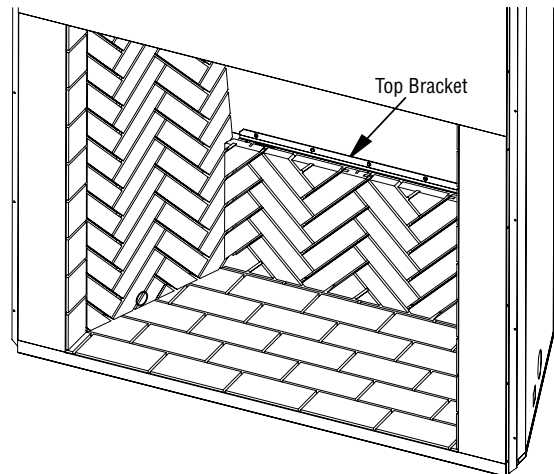

Figure 31 - Installing Rear Bottom Brick Panel
- Install the rear bottom brick panel. Place the panel face side down on the hearth with the bottom of the panel toward the rear of the firebox and the top toward the front of the fireplace. Tilt the panel up toward the back of the firebox. Secure bracket at top of the brick panel to the rear firebox surround (**Figure 31**).